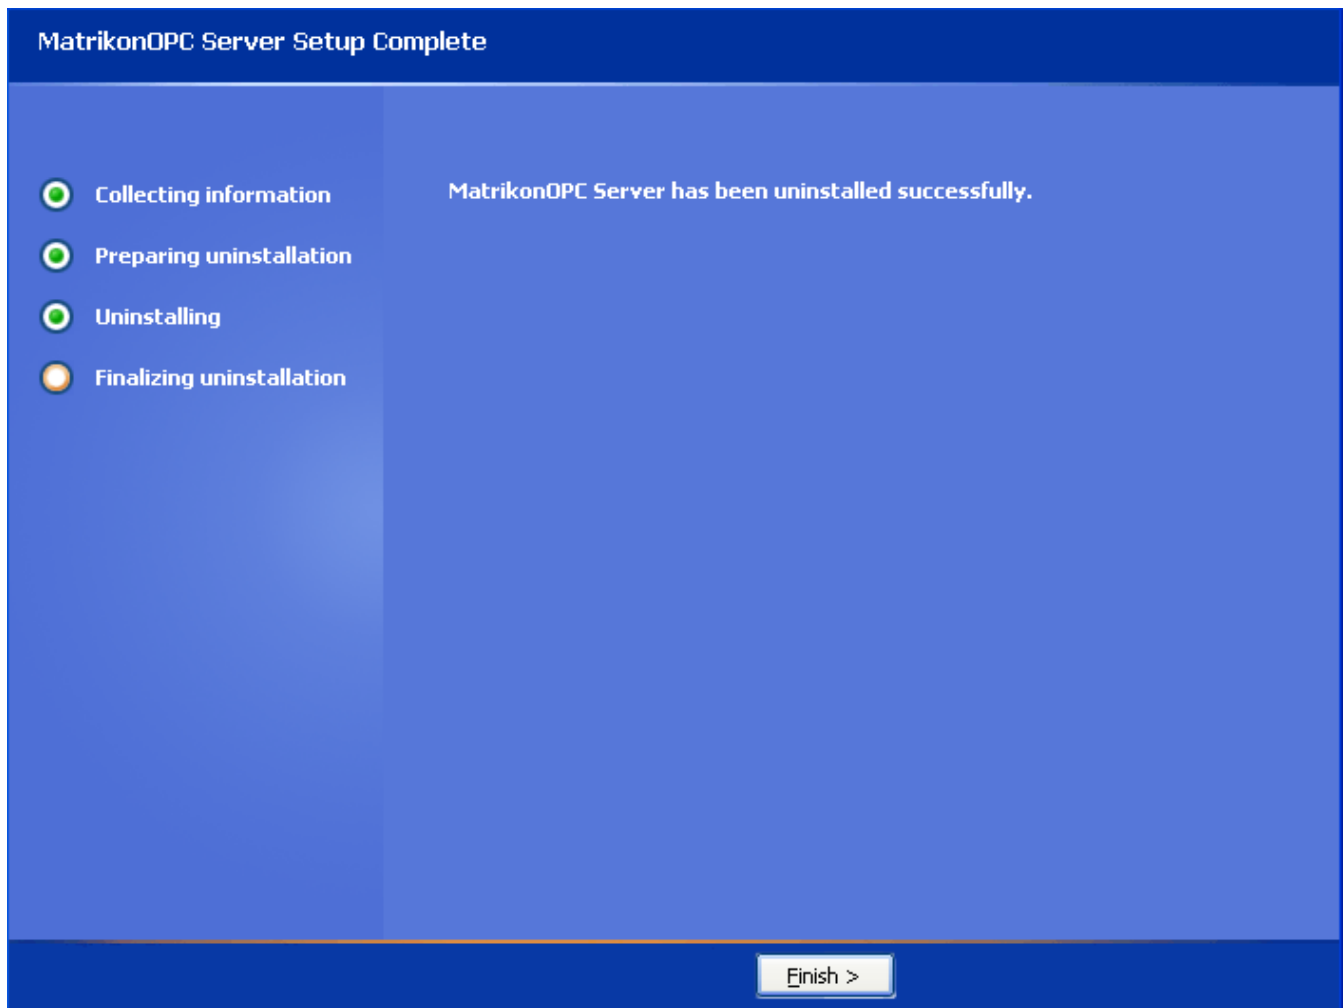

Figure 94 - MatrikonOPC Server for GDA Setup Complete Screen
11. When the un-install has finished, the **MatrikonOPC Server for GDA Setup Complete** screen (Figure 94) appears stating that MatrikonOPC Server for **GDA** was successfully un-installed.